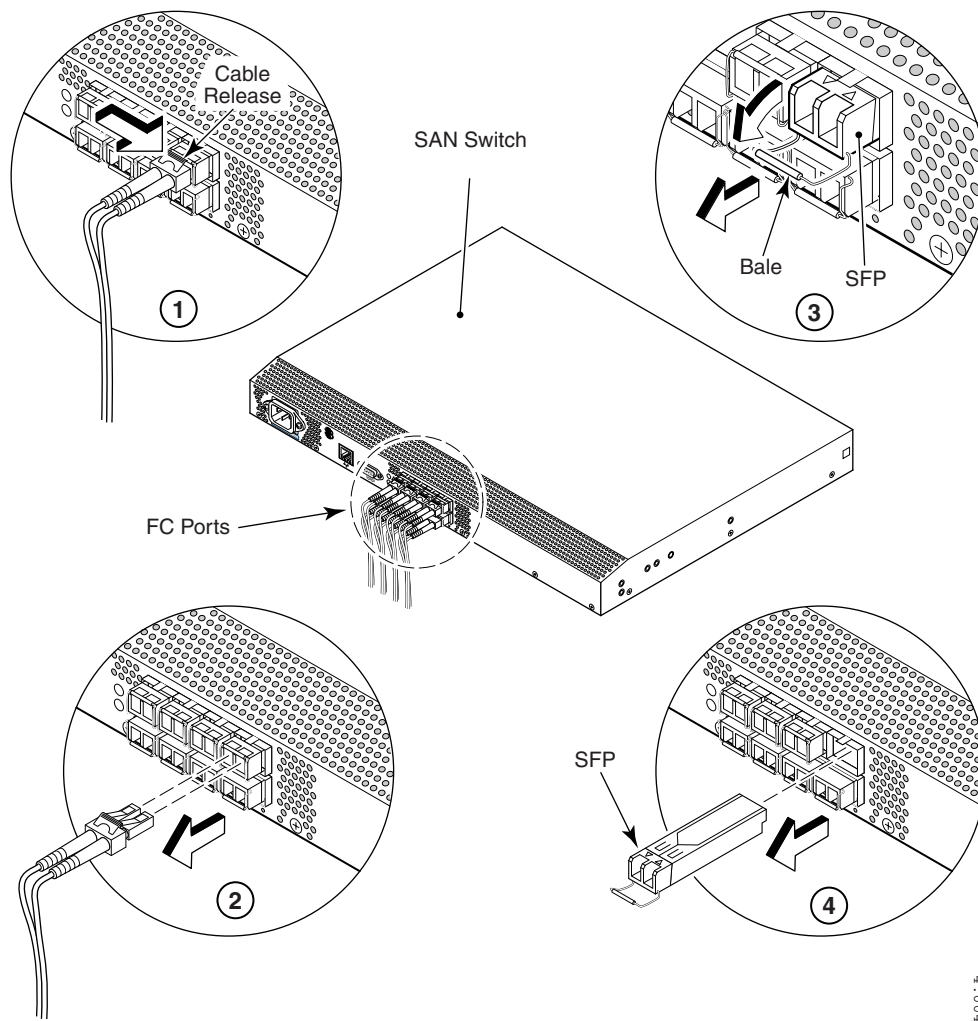

Figure 28 Installing or removing an SFP
1. Press and hold the cable release, as shown in Figure 28 on page 90.
1. Making sure that the bale (wire handle) is in the unlocked position, and place the SFP in the correctly oriented position on the port, as shown in Figure 28 on page 90.
Figure 28 shows the SFP installation and removal steps for a SAN Switch 2/16V.